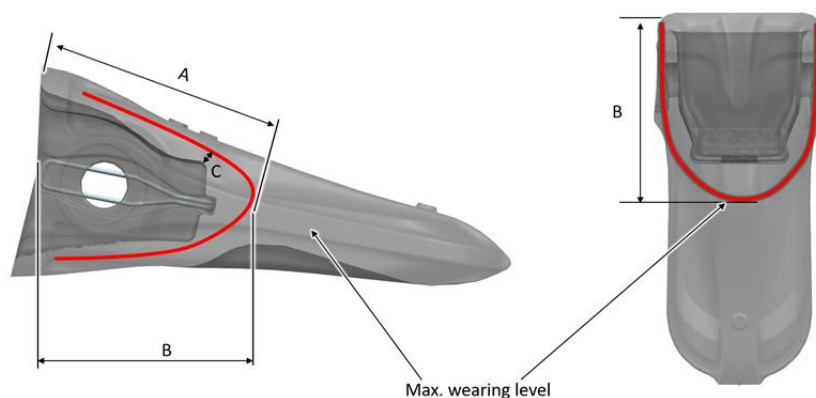

Figure 1 – Maximum wearing indicators on Excavator teeth
- Length taken from the beginning of the box to the end of the tooth, supporting the measuring tape on the top of the tooth (see A in figure 1 and figure 2 below).
- Length taken from the beginning of the box to the end of the tooth, with the measuring tape parallel to the side of the tooth (see B in figure 1 and figure 2 below).
- Thickness of the tooth box: Use thickness gauge (see C in figure 1 and figure 2 below).